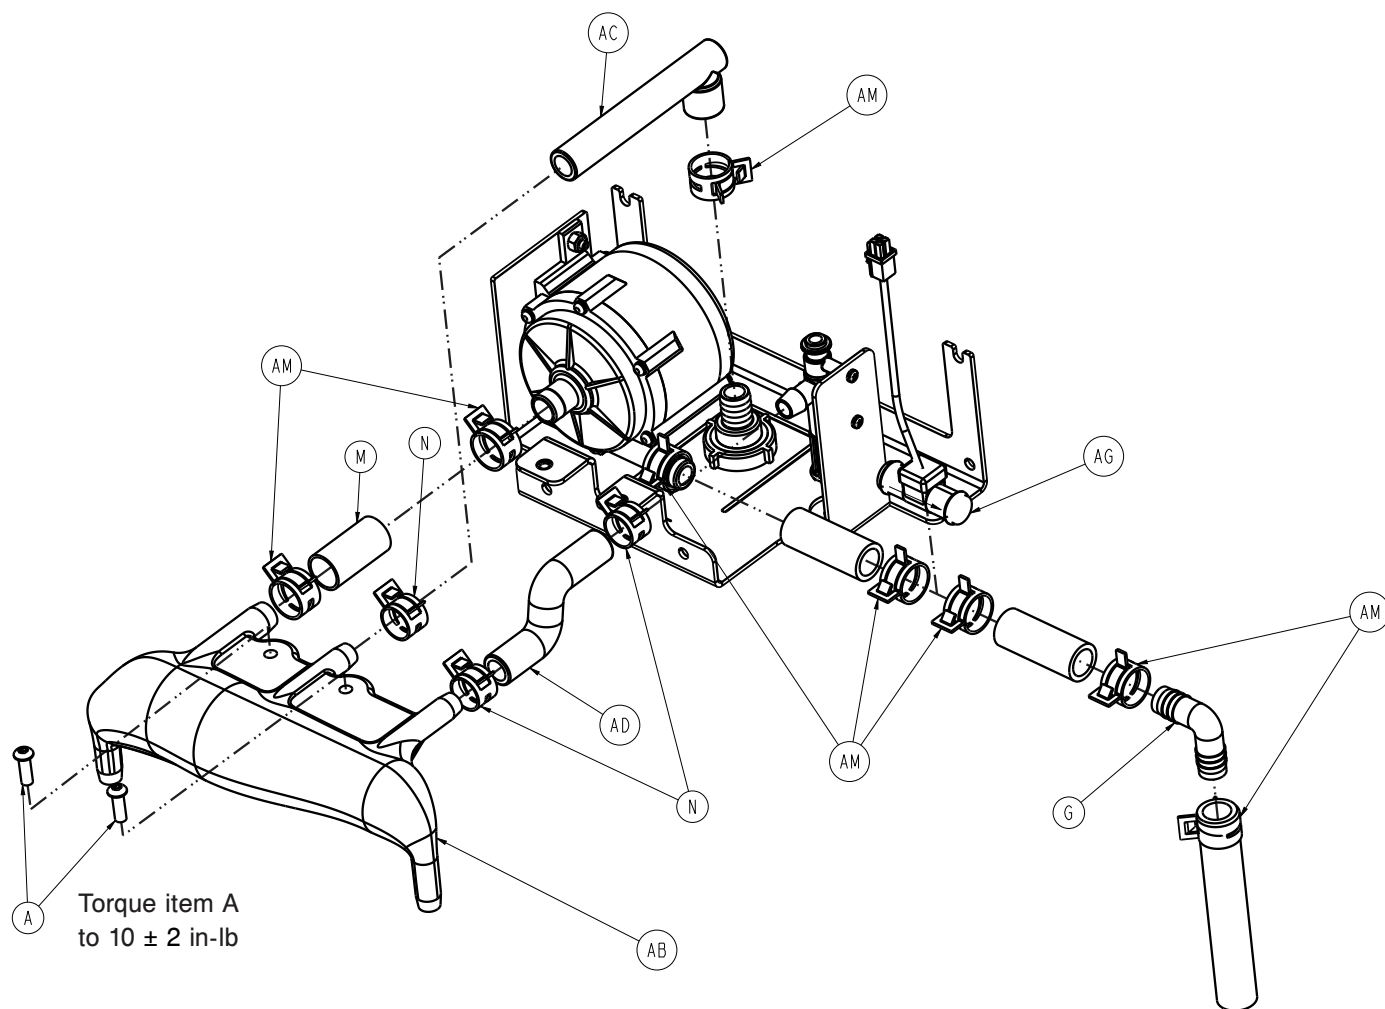

Figure 42 – Hose clamps
11. Using needle nose pliers, pinch the hose clamps (AM) and remove the tubing off of the System Flow Sensor (Figure 42).